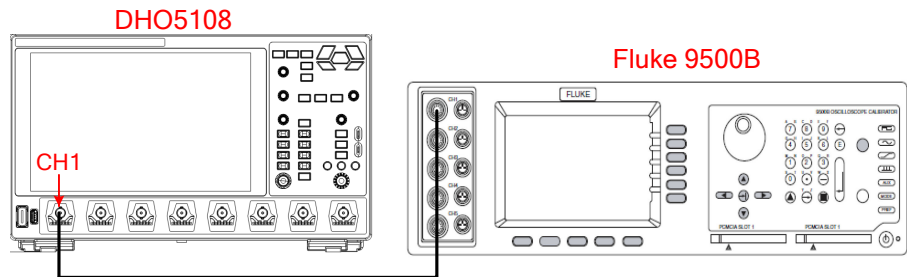

Figure 5.1 Test Connection Diagram
- 1. Connect the active head of Fluke 9500B to CH1 of the oscilloscope, as shown in *Figure 5.1*.
1. Connect the active head of Fluke 9500B to CH1 of the oscilloscope, as shown in *Figure 5.1*.